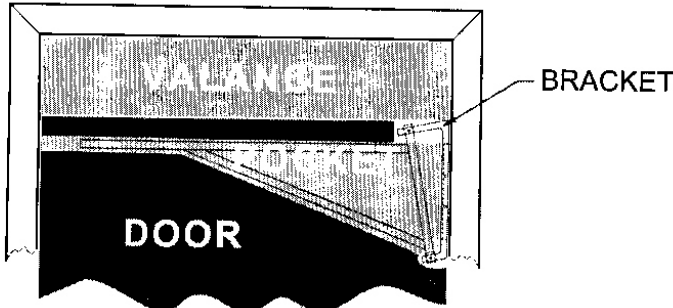

Figure 1-A
A) If a valance has been provided, the bracket base must be mounted below the valance (See Figure 1-A).
B) If the bracket pocket on door has been lowered, then the base of the bracket must also be lowered the same distance (See Figure 1-B). Example: If the bracket pocket has been lowered 2", then the bracket must be mounted an equal distance down from the header (See Figure 1-B).